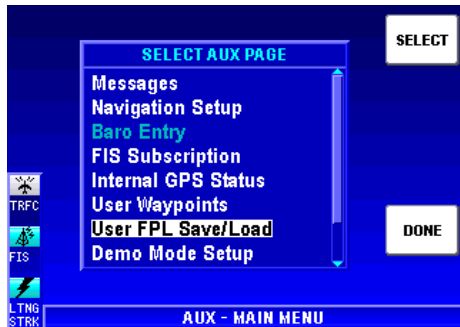

Figure 1-191
- Press the **AUX MENU** Softkey to display Figure 1-191. Use the Joystick to highlight **User FPL Save/Load** as shown.